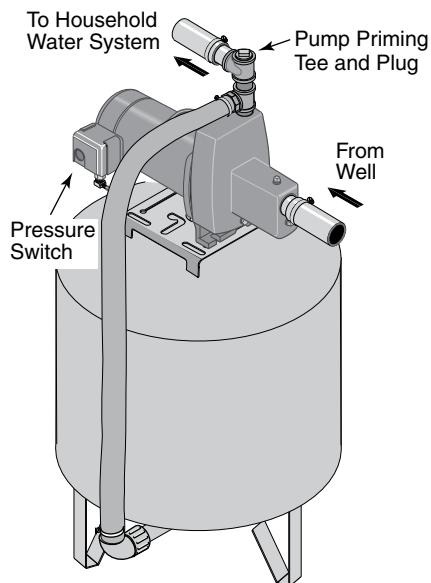

Figure 4: Pre-charged Tank Connections
(FIGURE 4)
Step 1. Install two tees in the pump discharge port (see Figure 4). The pipe size must be at least as large as the discharge port.